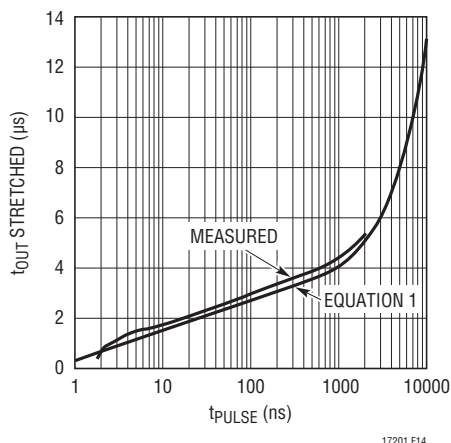

Figure 14. Log Pulse Stretcher Output Pulse vs Input Pulse
The circuit topology itself is extremely fast, limited theoretically only by the speed of the diode, the capture time constant τ_1 and the pulse source impedance. Figure 14 shows results achieved with the implementation shown, compared to a plot of Equation (1). The low end is limited by the delivery time of the upstream comparators. As the input pulse width is increased, the log function is constrained by the asymptotic RC response but, rather than becoming clamped, becomes time linear. Thus, for very long input pulses the third term of Equation (1) dominates and the circuit becomes a 3 μs pulse stretcher.
in the two output pulse widths is the per-octave response of your circuit (see Equation (3)). Shorter cable length differences can be used to get a plot of circuit performance down to 1.5ns (if any), which can then later be used as a lookup reference when you have moved from quantifying the circuit to using the circuit. (Note there is a slight aberration in performance below 10ns . See Figure 14.) As a final check, feed the circuit with identical cable lengths and check that it is not producing any output pulses.
This circuit has an ultimate sensitivity of better than 14mV with 5ns to 10ns input pulses. It can even detect an avalanche generated test pulse of just 1ns duration with sensitivity better than 100mV.⁶ It can detect short events better than the coincidence detector of Figure 14 because the one-shot is configured to catch just 100mV of upward movement from C1's V_{OL} , whereas the coincidence detector's 3ns specification is based on a full, legitimate logic high, without the help of a regenerative one-shot.